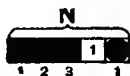
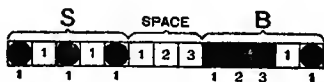
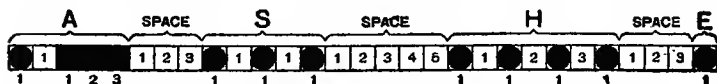

FIG. 43.—LENGTH OF DASH
FIG. 44.—SPACE BETWEEN TWO LETTERS.
FIG. 45.—SPACE BETWEEN TWO WORDS.
In learning to send remember that (1) a *dash* is equal to three dots; (2) the *space* between parts of the same letter is equal to one dot, as shown in Fig. 43; (3) the *space* between two letters is equal to three dots as shown in Fig. 44, and (4) the *space* between two words is equal to five dots as shown in Fig. 45.